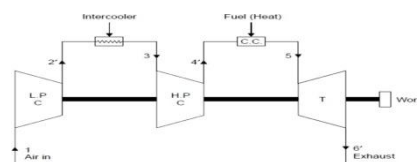

Fig.1.12.Turbineplant withintercooler
1. Inter cooling. A compressor in a gas turbine cycle utilises the major percentage of power developed by the gas turbine. The work required by the compressor can be reduced by compressing the air in two stages and incorporating an intercooler between the two as shown in Fig. 1.12. The corresponding T-s diagram for the unit is shown in Fig. 13.38. The actual processes take place as follows :